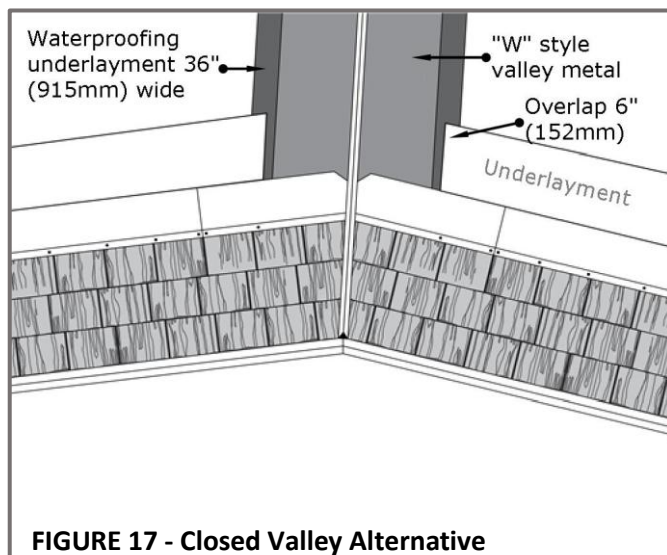

FIGURE 17 - Closed Valley Alternative
- When trimming the shingles at the valley, leave a **1/16" (1.6mm)** to **1/8" (3.2mm)** gap between the cut edge and the "W" fold. See **Figure 17**.